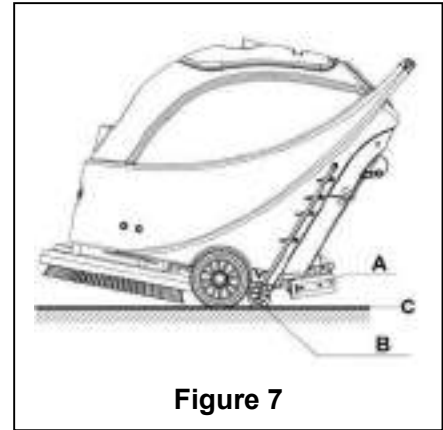

Figure 7
8. Release the safety switch (1) to turn off the brush/pad-holder and solenoid valve.
9. Press the Vacuum pump switch (39) to the "O" position, and the Vacuum pump will delay for 5 seconds before stopping work.
10. Press the water flow volume control switch (40) to the "O" position to completely turn off the work of solenoid valve.
11. Press the power switch (38) to the "O" position. And disconnecting the power cable (9) from the power supply.
12. Use the squeegee lifting handle (14) to lift the squeegee.
13. Grasp the handlebar (2) and gently tilt the machine backward until the guide wheel (B) touches the floor. See **Figure 7**.